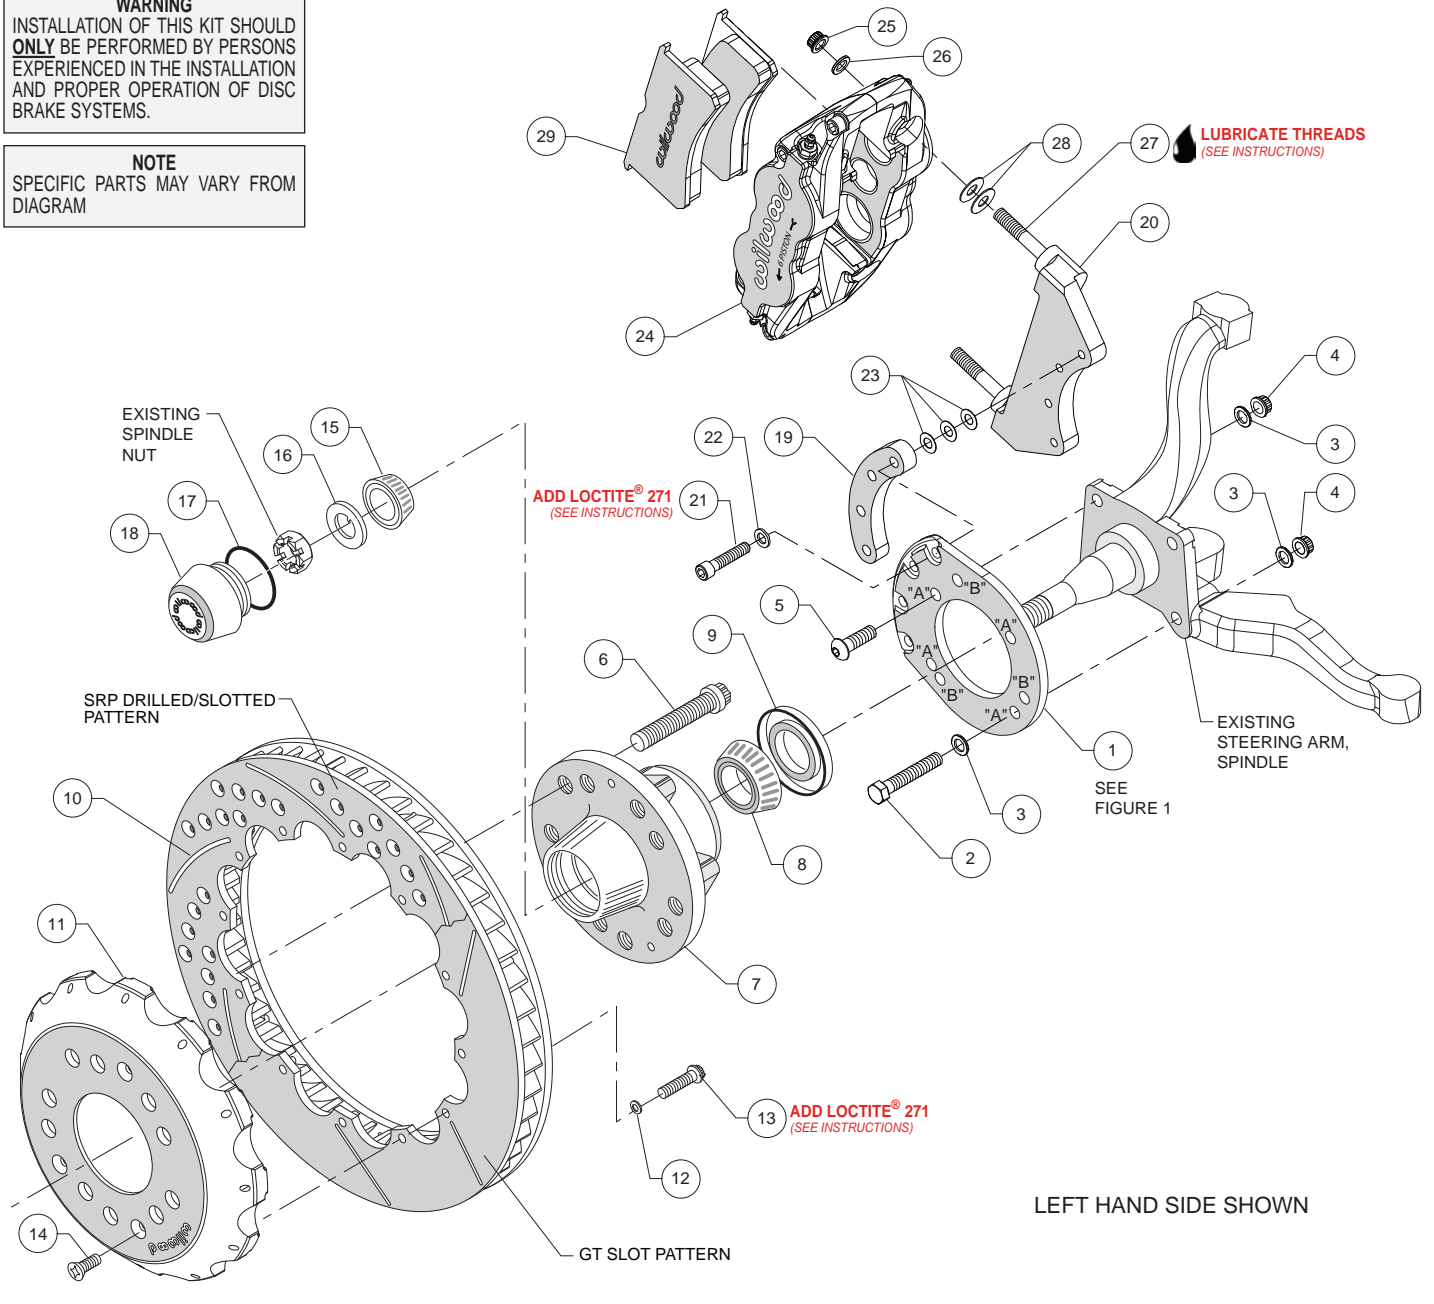

Figure 2. Typical Installation Configuration
Assembly Instructions (numbers in parenthesis refer to the parts list and Figure 2 on the preceding pages):
•Align bracket, using the four "A" holes, to the face of the spindle and attach using bolts (2 and 5), washers (3), and lock nuts (4), as shown in Figure 2 and Photo 1. Temporarily tighten the mounting bolts. **NOTE:** The bracket must fit squarely against the mounting points on the spindle. Inspect for interference from casting irregularities, machining ridges, burrs, etc. Torque lock nuts (4) to 25 ft-lb.
•Orient the rotor (10) and the hat (11) as shown in Figure 2 and Photo 6. Attach rotor to hat using bolts (13) and washers (12). Using an alternating sequence, apply red Loctite® 271 to the
- Slide the hat/rotor assembly (10/11) onto the hub (7) taking care to align the small countersunk holes in the hat with the small threaded holes in the hub (7). **NOTE:** The hat must fit flush against the hub face or excessive rotor run out may result. Install three flat head screws (14) through the small holes in the hat, Photo 5, and torque to 85 **in-lb.**
- Attach the caliper mounting bracket (20) to the spindle bracket (1) using bolts (21), washers (22), and spacer (19) as shown in Figure 2 and Photo 7. Initially place three .015" thick shims (23) on each bolt between the spacer and the caliper bracket. Temporarily tighten the mounting bolts. Later, after the caliper alignment has been checked, the mount bolts will be secured using red *Loctite*® 271.
- **NOTE:** This kit contains distinct right and left hand calipers that must be mounted in a specific direction, as described below. Lubricate the caliper mounting studs (27) with lightweight oil. Initially place two .035" thick shims (28) on each stud between the caliper and the bracket, as shown in Figure 2 and Photo 8. Mount the caliper (24) onto the bracket (20) using lock nuts (25) and washers (26), Figure 2. Ensure that the caliper is mounted so the largest pistons are at the rotor exit end of the caliper, in relation to the direction of rotor rotation. Temporarily tighten the lock nuts and view the rotor through the top opening of the caliper. The rotor should be centered in the caliper, Photo 9. If not, adjust by adding or subtracting shims (23) between the caliper bracket (20) and the spacer (19). Always use the same amount of shims on each of the four mounting bolts. Once the caliper alignment is correct, remove the bracket mounting bolts one at a time, apply red *Loctite*® 271 to the threads, and torque to 25 ft-lb.